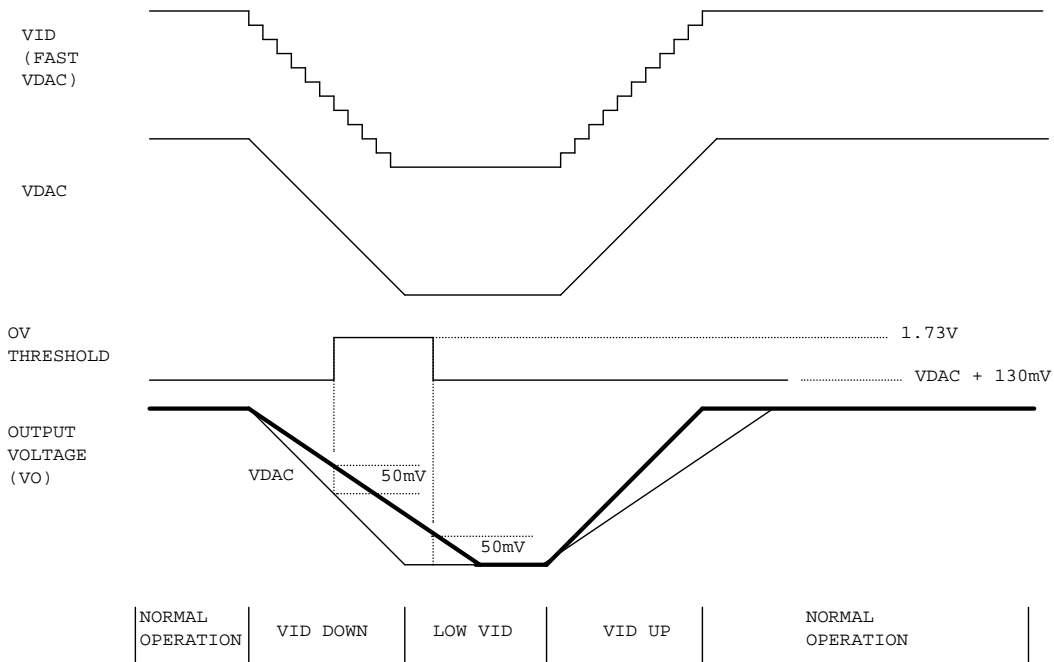

Figure 17 Over-voltage protection during dynamic VID
If either remote sense line VOSEN+ or VOSEN- or both are open, the output of remote sense amplifier (VO) drops. The IR3502B monitors VO pin voltage continuously. If VO voltage is lower than 200 mV, two separate pulse currents are applied to VOSEN+ and VOSEN- pins respectively to check if the sense lines are open. If VOSEN+ is open, a voltage higher than 90% of $V(VCCL)$ will be present at VOSEN+ pin and the output of open line detect comparator will be high. If VOSEN- is open, a voltage higher than 700mV will be present at VOSEN- pin and the output of open-line-detect comparator will be high. The open sense line fault latch is set, which pulls error amplifier output low immediately and shut down the converter. The SS/DEL voltage is discharged and the fault latch can only be reset by cycling VCCL power. During dynamic VID down, OVP may be triggered when output voltage can not follow VDAC voltage change at light load with large output capacitance. Therefore, over-voltage threshold is raised to 1.73V from $VDAC+130mV$ whenever dynamic VID is detected and the difference between output voltage and VDAC is more than 50mV, as shown in Figure 17. The over-voltage threshold is changed back to $VDAC+130mV$ if the difference is smaller than 50mV.